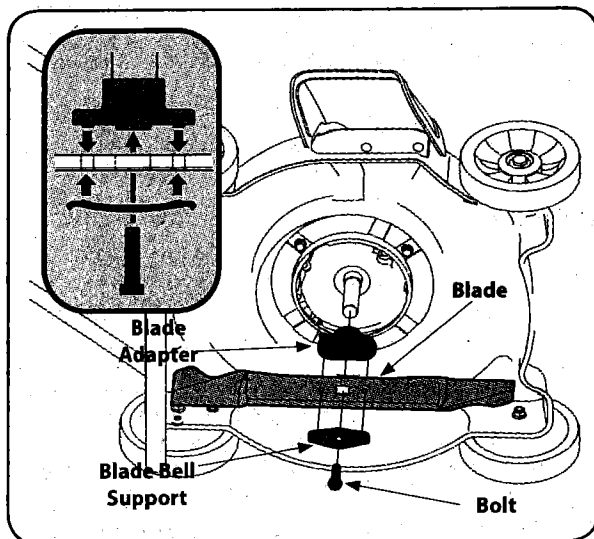

Figure 7-1
2. Remove the bolt and the blade bell support which hold the blade and the blade adapter to the engine crankshaft. See Figure 7-1.
3. Remove blade and adapter from the crankshaft. See Figure 7-1.